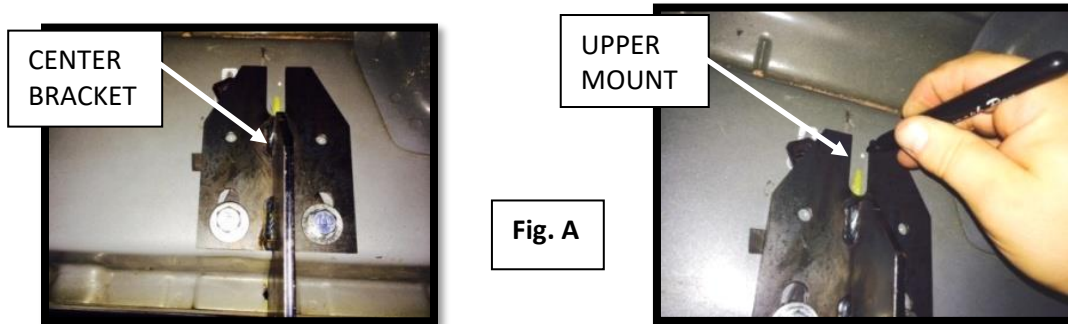

**Figure 1:** 09 - 14 RAM 1500, 2500, 3500, exc. 2014 1500 Quad Cab.
**Step 6:** Using the 3/8" threaded clips, slide two clips in the upper rectangular hole, and align one clip in each hex hole so the clip threads are visible. **Figure 1**